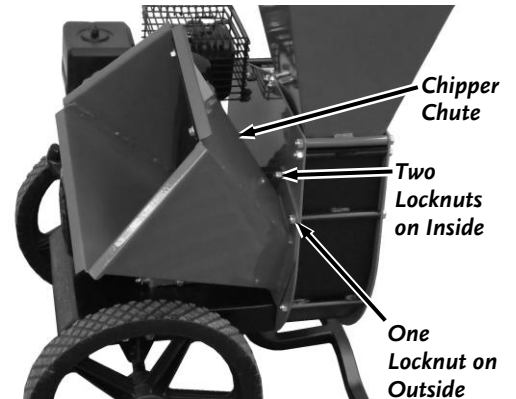
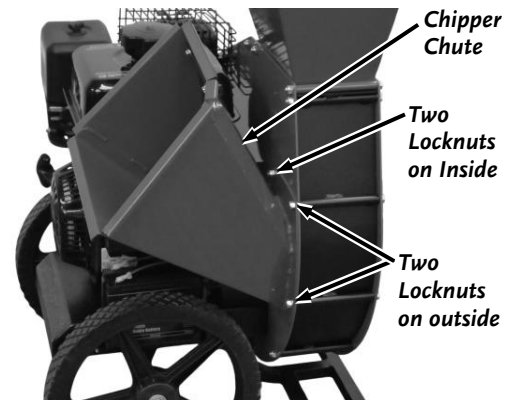

Figure 14a
Figure 14b
2. Remove the three PREMIER 320 (**Figure 14a**), or four PRO 420 (**Figure 14b**), Locknuts using one or two 1/2" Wrenches as needed to remove the Chipper Chute.